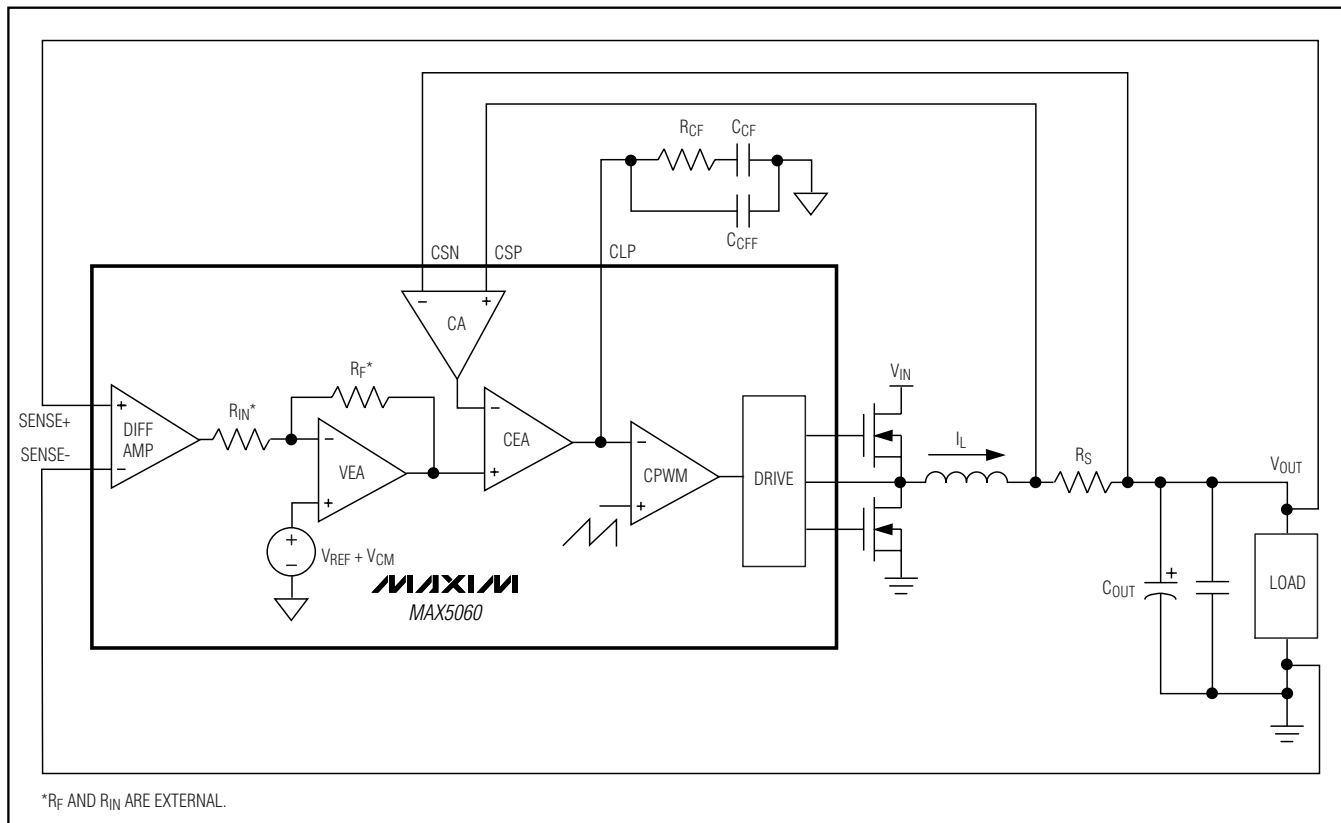

Figure 5. MAX5060 Control Loop
The MAX5060/MAX5061 use an average-current-mode control scheme to regulate the output voltage (Figure 5). The main control loop consists of an inner current loop and an outer voltage loop. The inner loop controls the output current (IPHASE), while the outer loop controls the output voltage. The inner current loop absorbs the inductor pole reducing the order of the outer voltage loop to that of a single-pole system.
The peak-current comparator provides a path for fast cycle-by-cycle current limit during extreme fault conditions such as an output inductor malfunction (Figure 5). Note the average current-limit threshold of 26.9mV still limits the output current during short-circuit conditions. To prevent inductor saturation, select an output inductor with a saturation current specification greater than the average current limit. Proper inductor selection ensures that only the extreme conditions trip peak-current comparator, such as a broken output inductor. The 60mV threshold for triggering the peak-current limit is twice the full-scale average current-limit voltage threshold. The peak-current comparator has only a 260ns delay.
The MAX5060/MAX5061 has a transconductance current-error amplifier (CEA) with a typical  $g_m$  of 550 $\mu$ S and 320 $\mu$ A output sink- and source-current capability. The current-error amplifier output CLP, serves as the inverting input to the PWM comparator. CLP is externally accessible to provide frequency compensation for the inner current loops (Figure 5). Compensate (CEA) so the inductor current down slope, which becomes the up slope to the inverting input of the PWM comparator, is less than the slope of the internally generated voltage ramp (see the *Compensation* section).
The PWM comparator (CPWM) sets the duty cycle for each cycle by comparing the output of the current-error amplifier to a 2VP-P ramp. At the start of each clock cycle, an R-S flip-flop resets and the high-side driver (DH) turns on. The comparator sets the flip-flop as soon as the ramp voltage exceeds the CLP voltage, thus terminating the ON cycle (Figure 5).
The differential amplifier (DIFF AMP) facilitates output-voltage remote sensing at the load (Figure 5). It provides true-differential output voltage sensing while rejecting the common-mode voltage errors due to high-current ground paths. Sensing the output voltage directly at the load provides accurate load voltage sensing in high-current environments. The VEA provides the difference between the differential amplifier output (DIFF) and the desired output voltage. The differential amplifier has a bandwidth of 3MHz. The difference between SENSE+ and SENSE- is regulated to 0.6V for the MAX5060. Connect SENSE+ to the center of the resistive divider from the output to SENSE-. Connect SENSE- to PGND near the load.
Set the voltage-positioning window ( $\Delta V_{OUT}$ ) using the resistive feedback of the voltage-error amplifier (VEA). Use the following equations to calculate the voltage-positioning window (Figure 5):